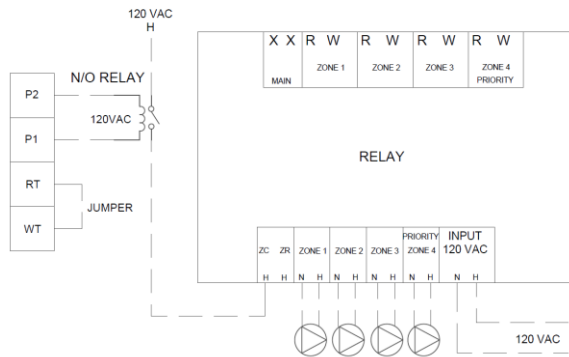

Figure 9 : Multiple pump system with all zones wired and free ZC ZR terminals (total current over 5A)
- If amperage is higher than 5A, an external relay may be used in order to allow more amperage. Wire the **P₁** and **P₂** terminals to a 120VAC coiled relay to get an external 120VAC to the **ZC** terminal on the switching relay (see Figure 9).